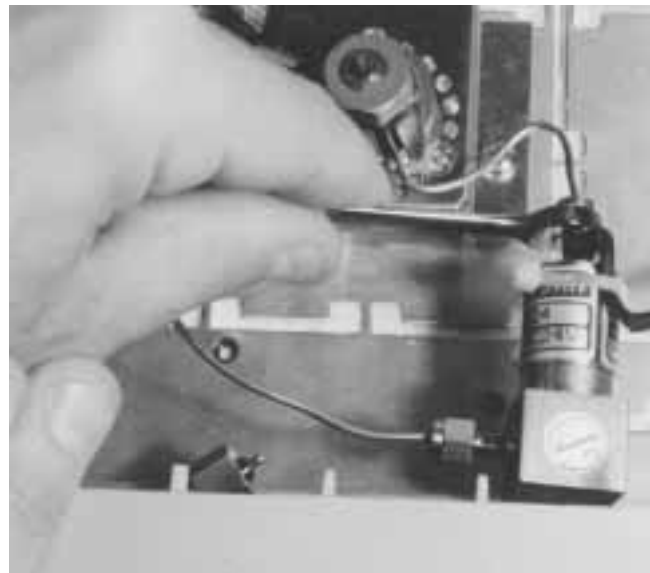

Fig 3.32 Tighten the Swagelok fittings $\frac{3}{4}$ turn past finger tight with a $\frac{5}{16}$ " wrench.
7. Determine the flow direction of the GC carrier gas solenoid valve (78399924). There is an arrow on the side of the valve which notes the flow direction of the valve. Install the valve where you have just made the cut in the carrier gas line such that the outlet of the valve is toward the injection port of the GC. Install the valve in such a position that the valve will not interfere with the covers of the GC when they are replaced later. **See Figure 3.30.** Be sure the $\frac{1}{16}$ " SS line is completely seated in the Swagelok™ fittings on the solenoid valve. **See Figure 3.31.** Tighten the fittings finger tight and then tighten $\frac{3}{4}$ turn further with the $\frac{5}{16}$ " wrench. **See Figure 3.32**